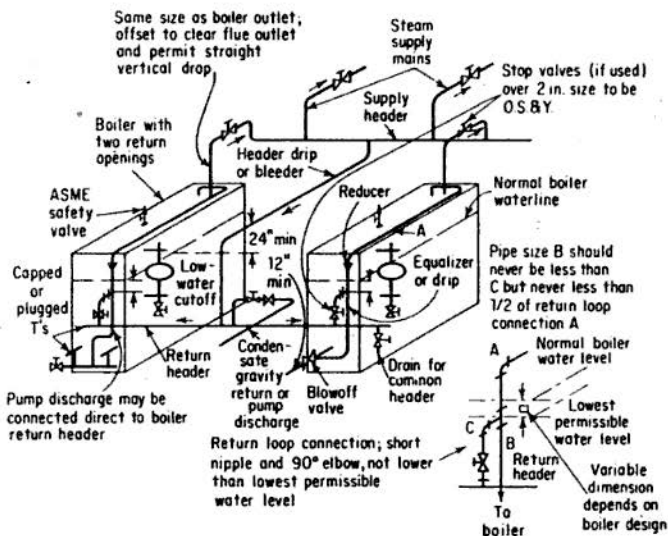

Fig. 5-11. ASME recommendations for connecting steam-heating boilers in battery.
A See Fig. 5-11 and note the following:
A 1. The return-pipe connections of each boiler supplying a gravity-return steam-heating system shall be arranged to form a loop as shown in Fig. 5-11. Then the water in each boiler cannot be forced out below the safe water level.
2. For hand-fired boilers with a normal grate line, the recommended pipe sizes detailed as A in Fig. 5-11 are 1½ in. for 4 sq ft or less of firebox area at the normal grate line, 2½ in. for areas more than 4 sq ft and up to 14.9 sq ft, and 4 in. for 15 sq ft or more.
3. For automatically fired boilers which do not have a normal grate line, the recommended pipe sizes detailed as A in Fig. 5-11 are 1½ in. for boilers with a minimum sv relieving capacity of 250 lb per hr. or less, 2½ in. for boilers with minimum sv relieving capacity from 251 to 2,000 lb per hr, inclusive, and 4 in. for boilers with more than 2,000 lb per hr minimum sv relieving capacity.